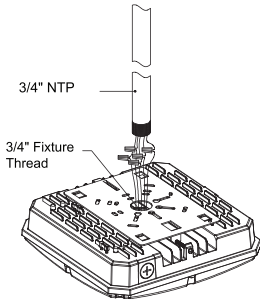

Figure 1
- Make appropriate electrical connection between fixture and power supply wires from 3/4" NPT pipe (not provided) (Figure 1).